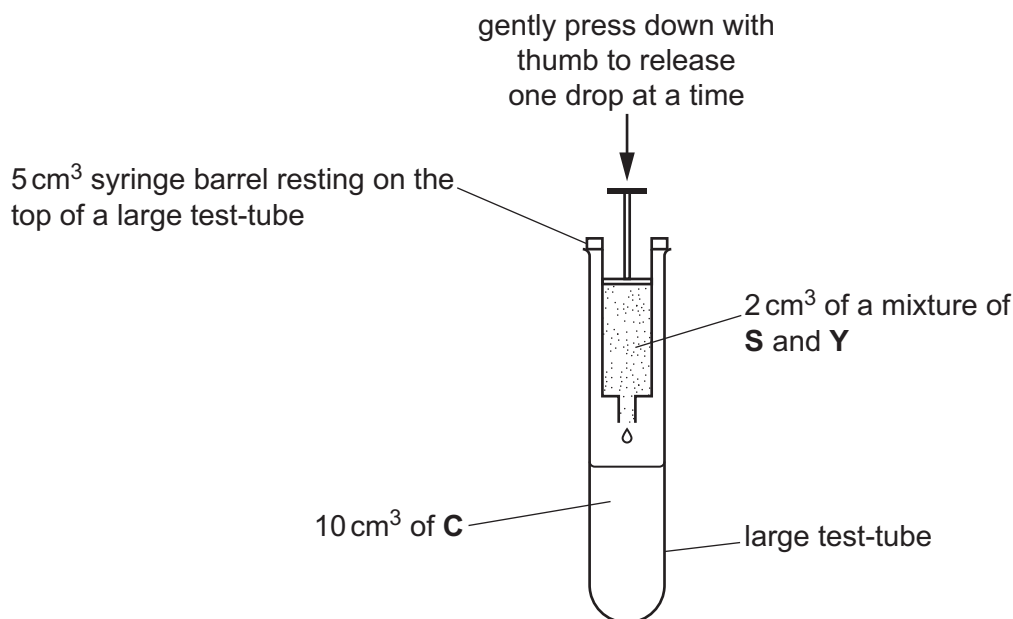

Fig. 1.1
- step 5 Position the 5 cm³ syringe over the **large** test-tube containing **C** as shown in Fig. 1.1.